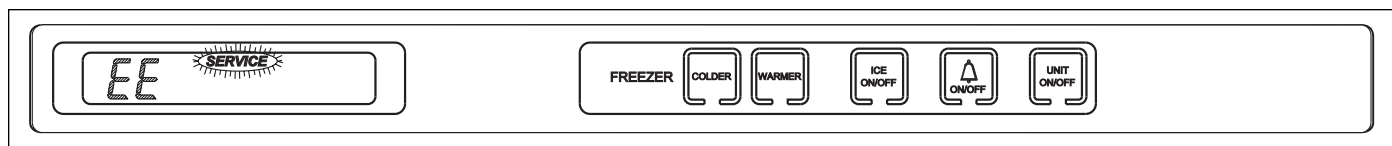

Figure 3-38. Model 700TF/I-2 & 700TF/I-2V
- For Model 700TF/I-2 and Model 700TF/I-2V, See Figures 3-38 through 3-41